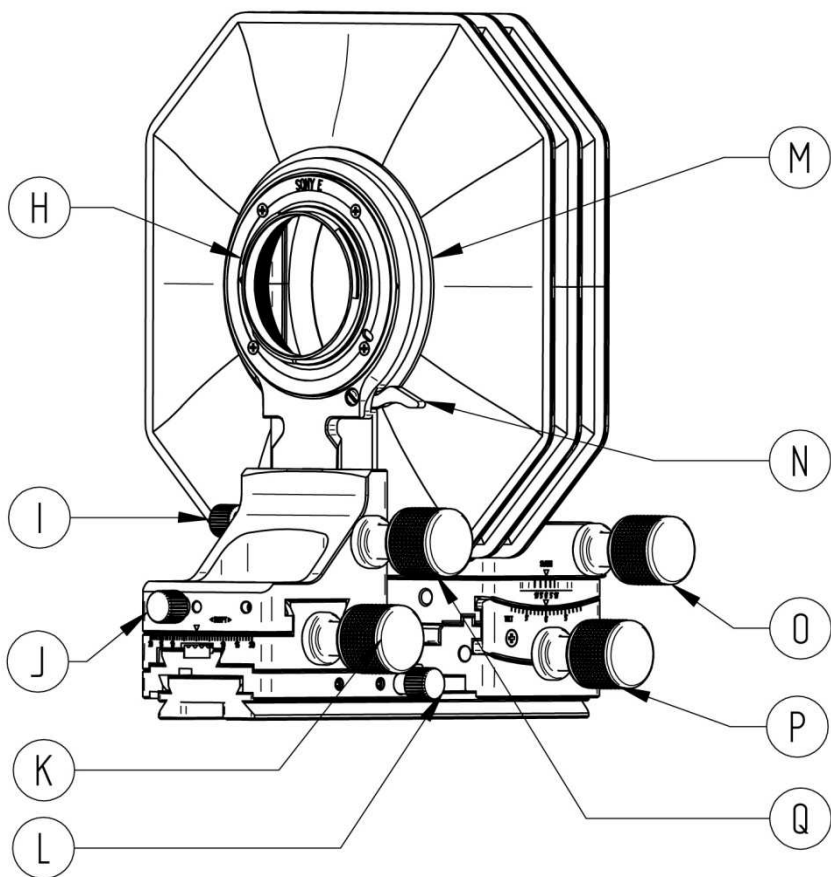

Figure 2: Cambo Actus rear view
- Unlock the fast focus slider (knob L, figure 2)
- Lock the fast focus slider (knob L, figure 2)